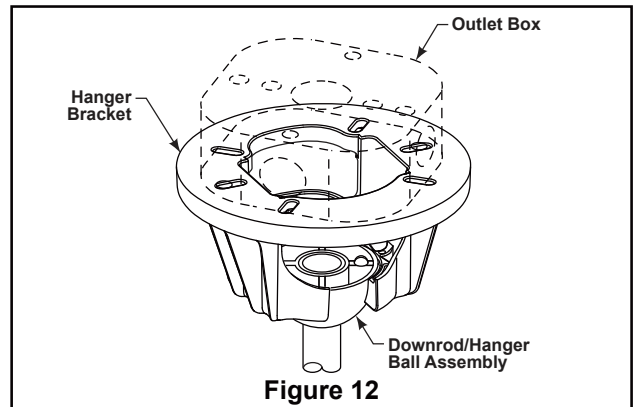

Figure 12
- 2. Carefully lift the fan and seat the downrod/hanger ball assembly on the hanger bracket that was just attached to the outlet box. Be sure the groove in the ball is lined up with tab on the hanger bracket. (Figure 12)